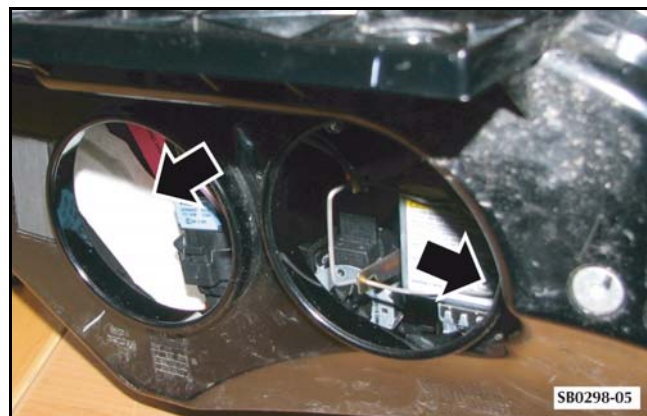

Figure 5
12. Install two silica gel bags into the headlamp at the positions shown in Figure 5.